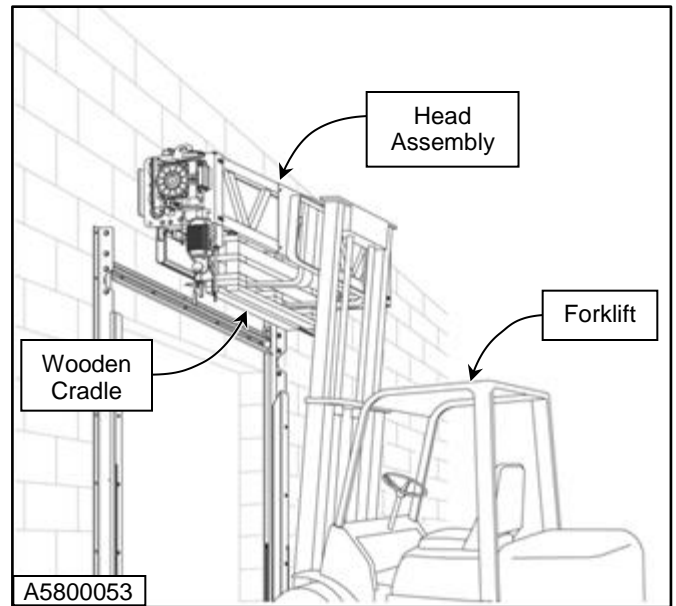

Figure 17
- b. Secure the head assembly to a forklift or other suitable lifting device. (See Figure 17)